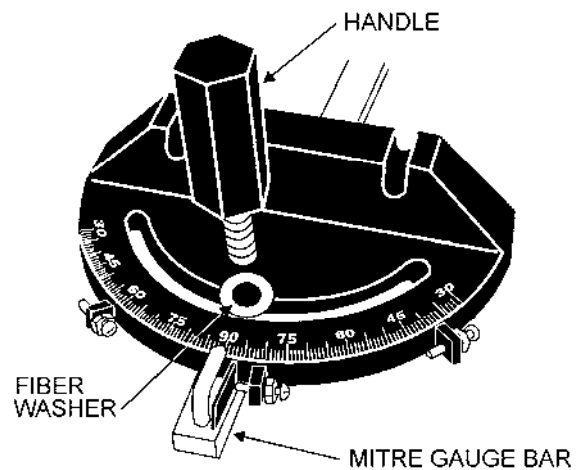

Figure 26
1. Mount the gauge body to the bar, making sure the pins underneath the body insert into the holes in the bar. See Figure 26.